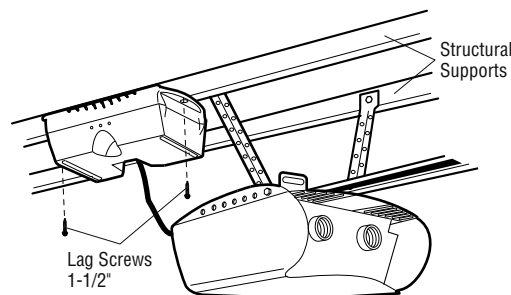

Figure 2
- Position the SPU as desired to a structural support (ceiling joist or wall stud) (Figure 2).